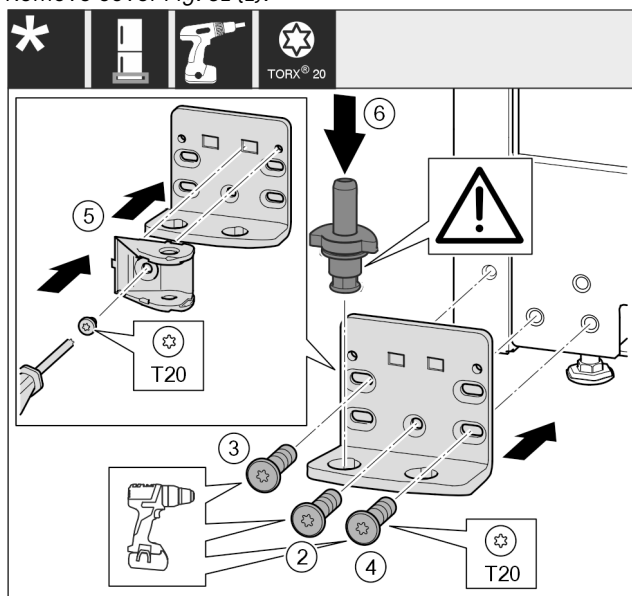

Fig. 32
- Place the swap bearing block on the other side and use a screwdriver to screw it on. Start with the screw Fig. 32 (2) at the bottom in the middle.
- Tighten screw Fig. 32 (3) and screw Fig. 32 (4).
- Turn the closing damper connection Fig. 32 (5) by 180°. Use screwdriver to screw it onto the other side of the swap bearing block.
- Insert the bearing bolt Fig. 32 (6) completely. Ensure that the latching cam is pointing towards the rear.